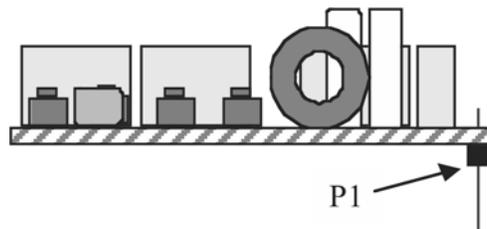

Figure 7
- Install an 8-pin male connector at P1, on the **bottom** side of the board, as shown in Figure 7 (below). **Do not solder yet.** Figure 7 shows P1 as viewed from the left end of the Filter board. The plastic part of the connector must be on the bottom side of the board, with the long end of the pins pointed down. The short pins are inserted into the board.
- Check one more time to be sure that P1 is installed on the *bottom* side as shown in Figure 7. If P1 is in the right position, solder the remaining pins. Do not trim the leads.